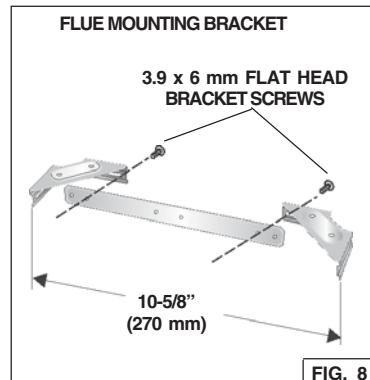

FIG. 8
1. Assemble the flue mounting bracket, adjusting outside width as shown. Fig.8